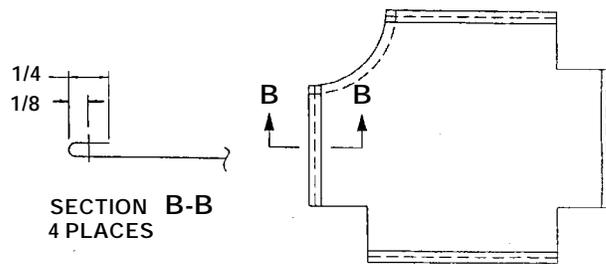

Figure 14. Sew Remaining Edges
d. Sew remaining edges per Figure 14.